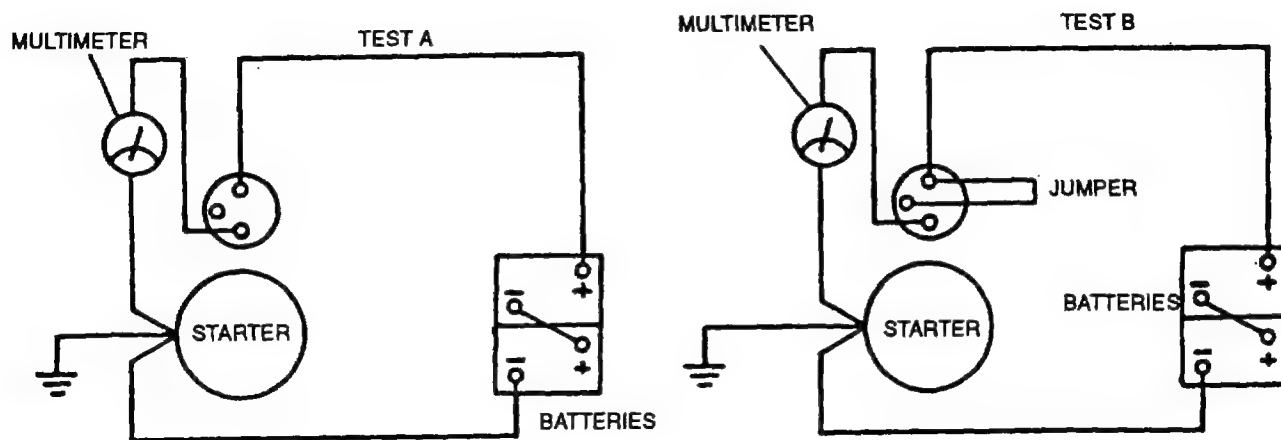

FIGURE 3-23. Starter Solenoid Test Circuit
- b. Set multimeter for volts DC and connect as shown in **FIGURE 3-23** Test A. If voltage is indicated solenoid is defective.
- c. Momentarily connect a jumper as shown in **FIGURE 3-23** Test B. Multimeter should indicate battery voltage and starter should crank the engine. If multimeter does not read battery voltage, the solenoid is defective. If multimeter indicates battery voltage, but starter does not operate, starter is defective.